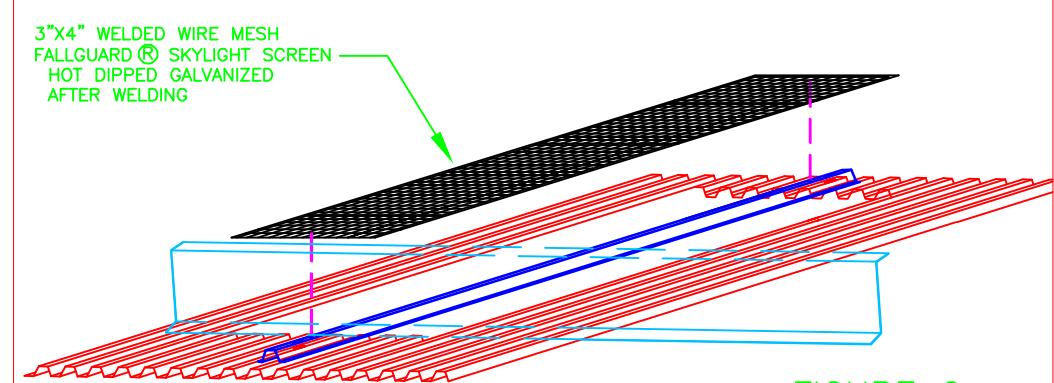

FIGURE 2
3. POSITION SKYLIGHT SCREEN OVER FIBERGLASS PANEL AND INTO ATTACHMENT TABS SO THAT EQUAL AMOUNTS OF SCREEN EXTEND PASS BOTH ENDS AND SIDES OF THE FIBERGLASS PANEL OPENING (FIGURE 2).